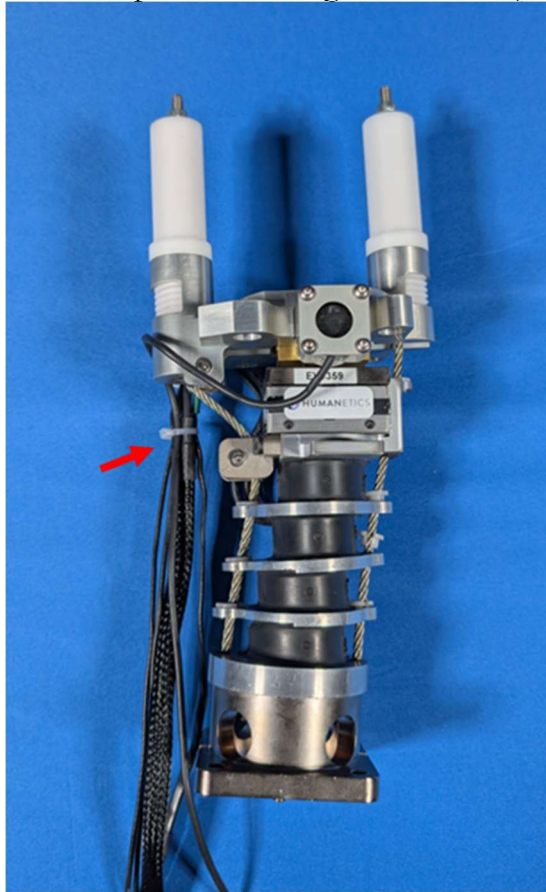

Figure 13-19. OC potentiometer wire routing
13.4.1.5 After the OC potentiometer has been installed, route the cable to the rear of the neck and add a tie wrap to the existing neck bundle (Figure 13-19).